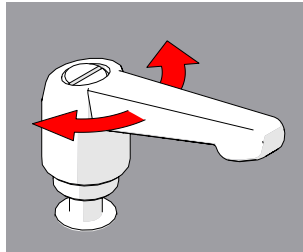

Fig. 33 - Rotate handle
2. Continue to pull while rotating the lever in the appropriate direction (Fig. 33).